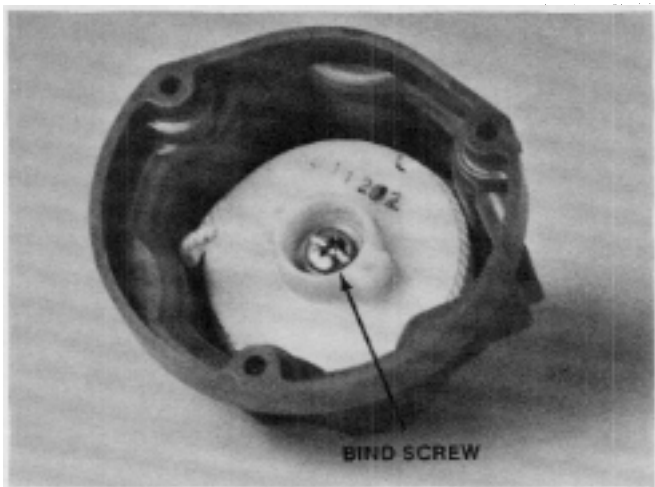

Figure 62
5. Remove the bind screw by turning it counter-clockwise See Fig. 62.